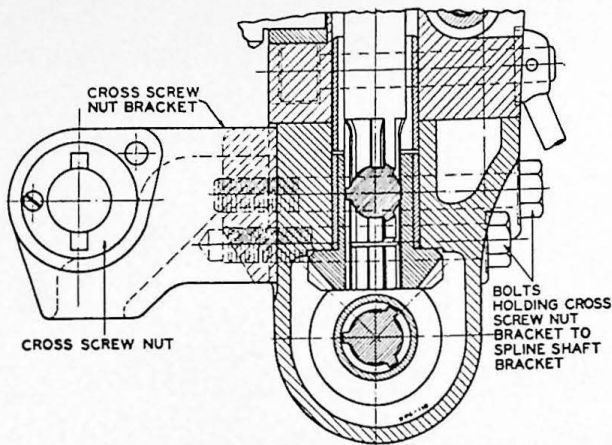

FIGURE 14
2. Remove two hexagon head screws, heads of which are outside of spline shaft bracket on saddle, on right hand side of knee. See Figure 14.